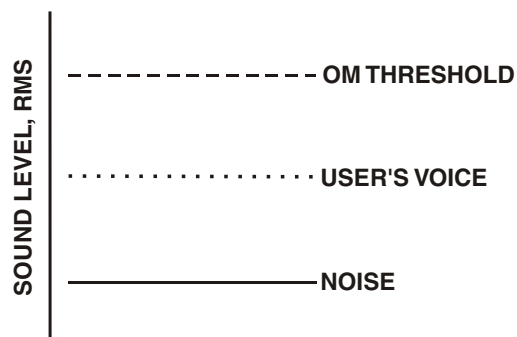
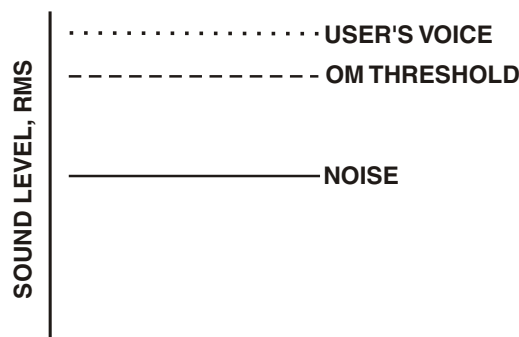

Figure 32
Figure 33
The microphone gain controls on the base station and beltack are set to mid-levels by the factory. In most cases this setting will work fine and only on loud speech will the overmodulation (OM) indicator light. However, in environments where the background noise is loud or the user has a strong/quiet voice, the gain control will need to be adjusted. In Figure 32 the gain is set correctly. The user's root-mean-square (RMS) sound level is well below the OM threshold and only on peaks does his or her voice flash the OM indicator light.
Figure 33 displays the same gain setting as in Figure 32 but brought into a high noise environment. The user's voice now lights the OM indicator all the time he or she speaks due to the higher noise plus the user speaking louder. The result on the system is distortion on louder speech. The microphone gain must be reduced. The same applies to a user with a powerful voice. If someone sets the system mic gain to their voice and user has a much stronger voice, then the gain will need to be reduced, even if the background noise is the same.